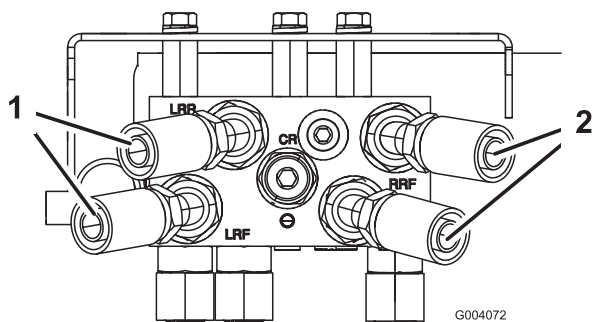

Figure 6
1. Loosely thread the 45 degree fitting end of each hydraulic hose onto the straight fittings at the rear of the manifold (Figure 6).